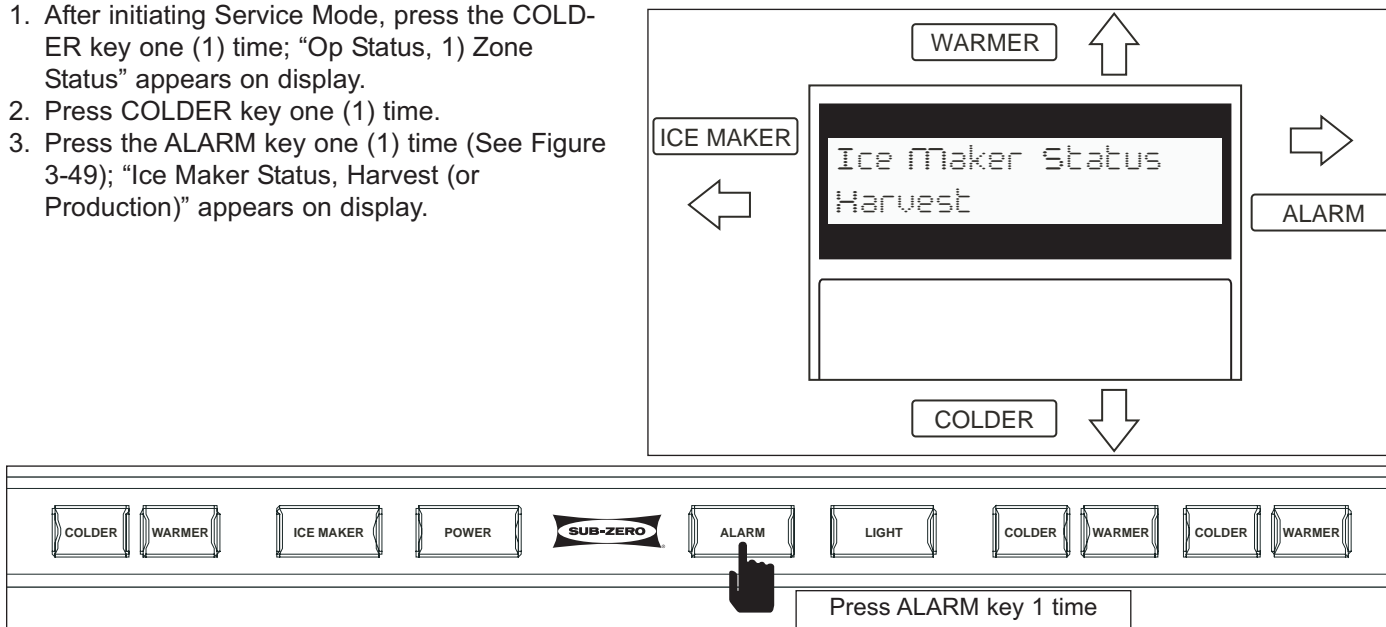

Figure 3-49. Key Strokes and Tech Display - Operational Status, Ice Maker
1. After initiating Service Mode, press the COLDER key one (1) time; “Op Status, 1) Zone Status” appears on display.
2. Press COLDER key one (1) time.
3. Press the ALARM key one (1) time (See Figure 3-49); “Ice Maker Status, Harvest (or Production)” appears on display.